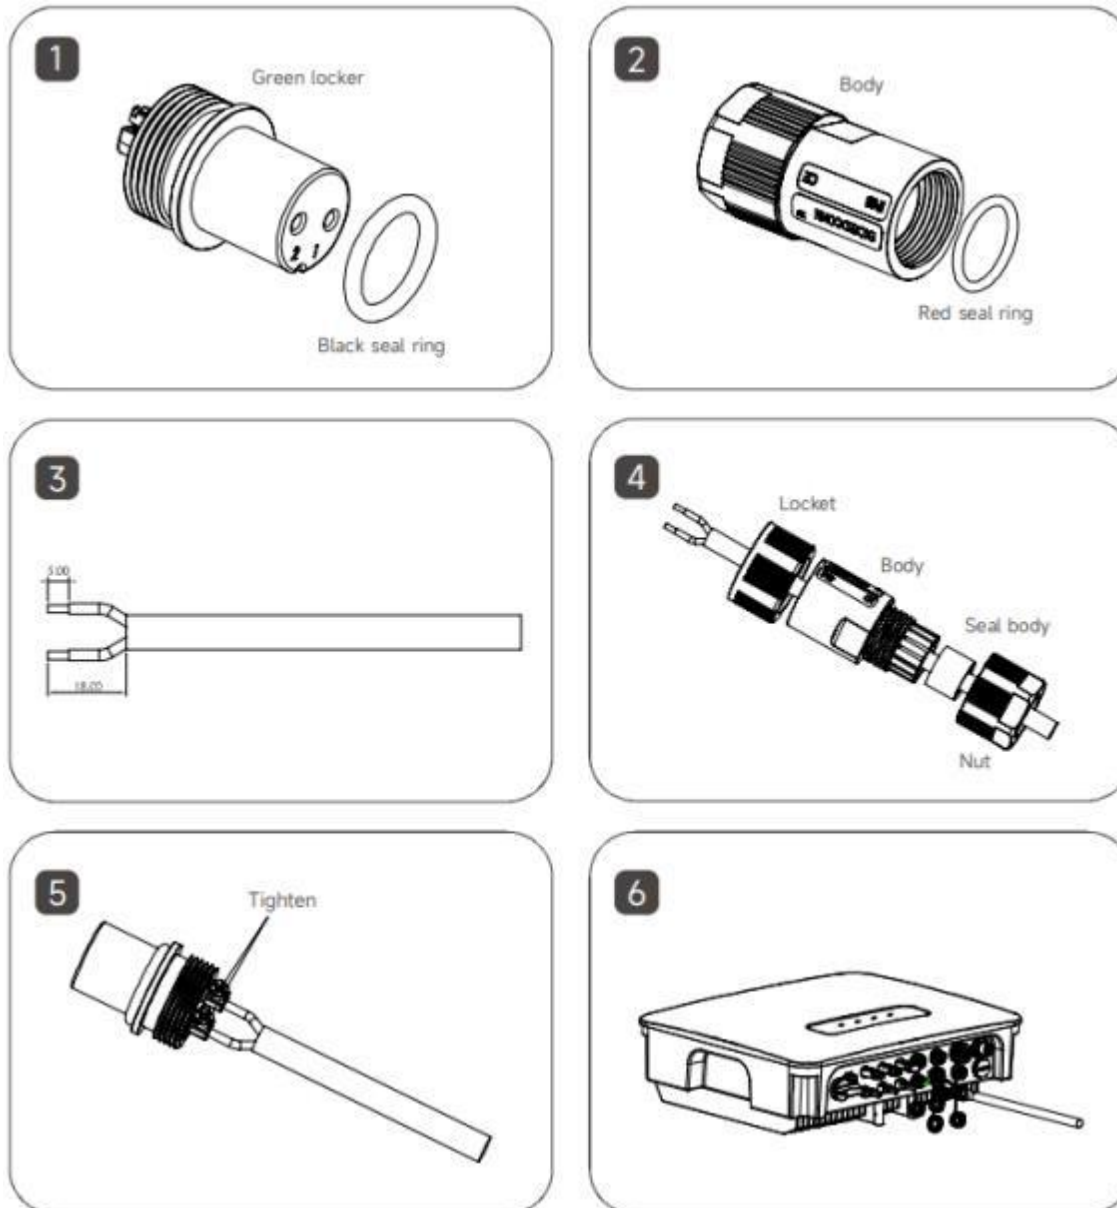

Figure 7
Step 5: Crimp the 2pin copper core on the green locker and tighten it. **1 on the connector corresponds to A on the electric meter , and 2 corresponds to B on the electric meter** (Figure 7).